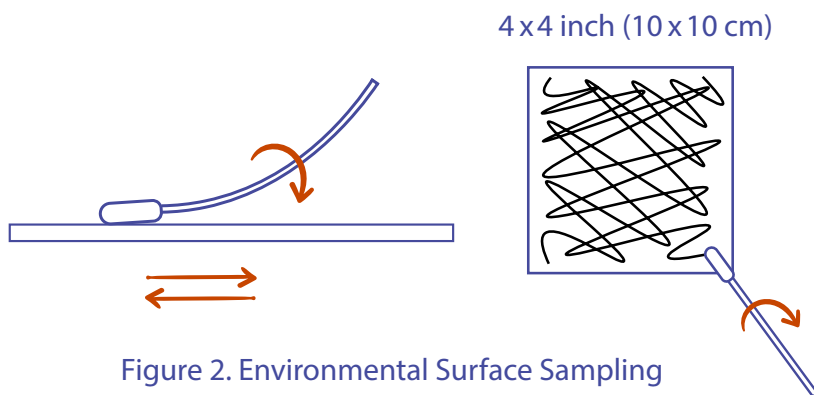

Figure 2. Environmental Surface Sampling
8.1.2. Collect a surface sample by swabbing a 4x4 inch (or 10x10cm) area using a rolling crosshatch technique shown in **Figure 2**. Ensure that all sides of the swab bulb come into contact with the surface.